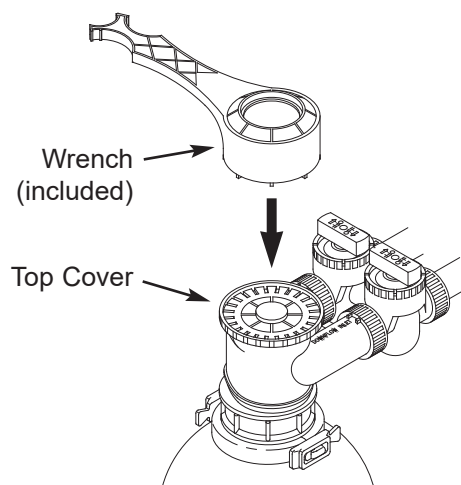
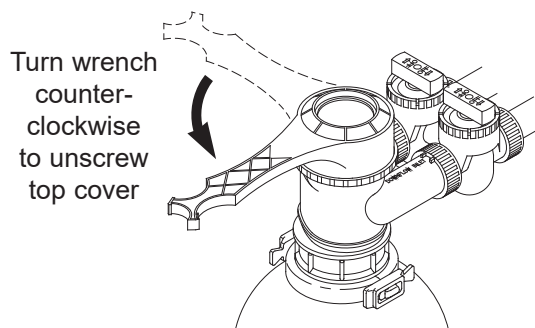

FIG. 7
FIG. 8
2. Using the included wrench (See Fig. 7), engage the in/out head's top cover. Loosen and unscrew the cover by turning it counterclockwise (See Fig. 8), allowing pressure to escape from system.